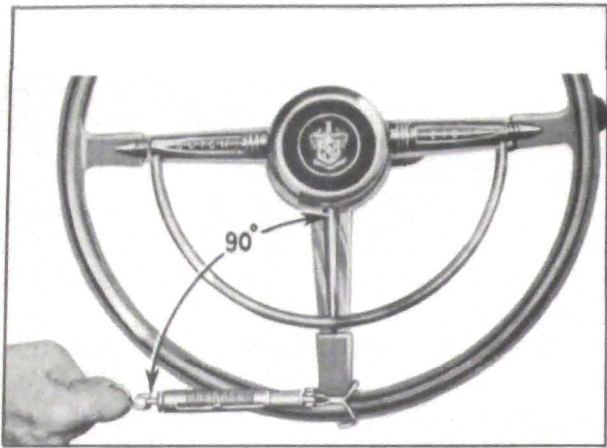

Figure 7-7—Checking Thrust Bearing or Lash Adjustment with Scale thrust bearings to get out of line with ends of worm.
7. After locking the bearing adjuster check the load on thrust bearings with steering wheel turned to near one extreme position. Apply Scale J 544-A to a spoke at rim of wheel and exert a steady pull while keeping the scale at 90 degrees to spoke as shown in figure 7-7. The pull required to keep wheel turning slowly should be between $\frac{7}{8}$ and $1\frac{1}{8}$ pounds. Readjust to obtain this bearing load if necessary.